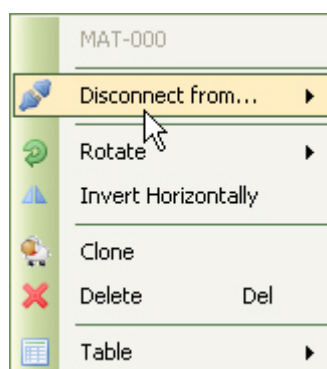

Figure 16: Selected object context menu.
- Through the context menu activated with a right mouse button click over the object (Figure 16);
Removing objects from the flowsheet The selected object can be removed from the flow-sheet by pressing the DEL keyboard button or by using the context menu - "Delete" item (Figure 16).